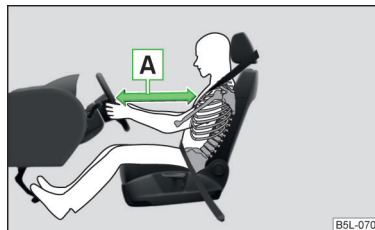

Fig. 11
- It is important for the driver and front passenger to maintain a minimum distance of 25 cm from the steering wheel or the control panel » **fig. 11 - A**. If you do not observe this distance, the airbag cannot protect you - risk to life! The front seats and the head restraints must always be correctly adjusted to match the body size of the occupant.